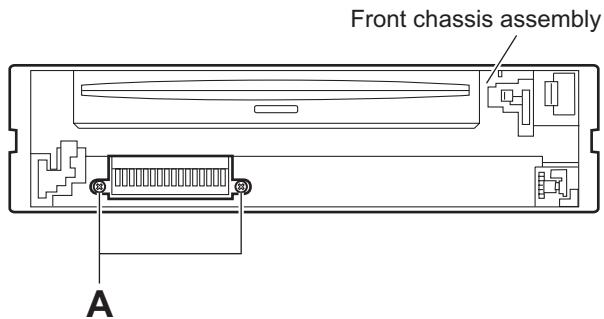

Fig.3
(See Figs.3 and 4)
- (1) Remove the two screws **A** on the front side of the main body. (See Fig.3)